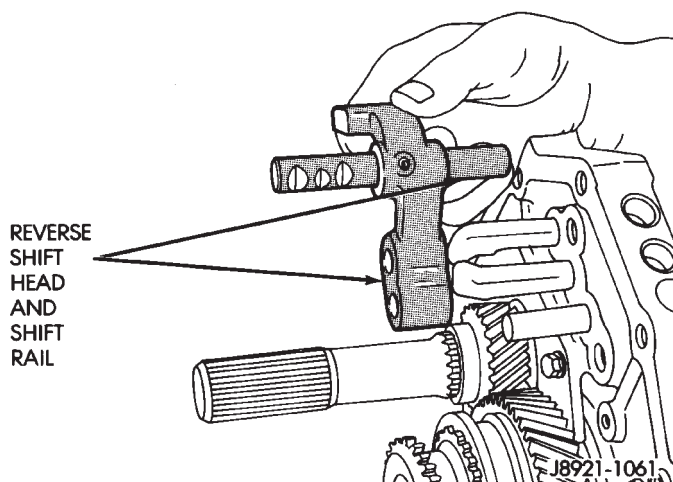

Fig. 31 Removing Reverse Shift Head And Rail
(11) Remove reverse shift rail and reverse shift head as assembly (Fig. 31).
(12) Measure thrust clearance between counter fifth gear and thrust ring with feeler gauge. Clearance should be 0.10 to 0.40 mm (0.003 to 0.019 in.). If clearance exceeds limits, gear and/or ring will have to be replaced.